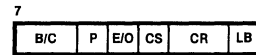

Figure 23. UART Configuration Register
**UART Configuration Register.** This 8-bit register (Figure 23) contains control information for both the transmitter and receiver.